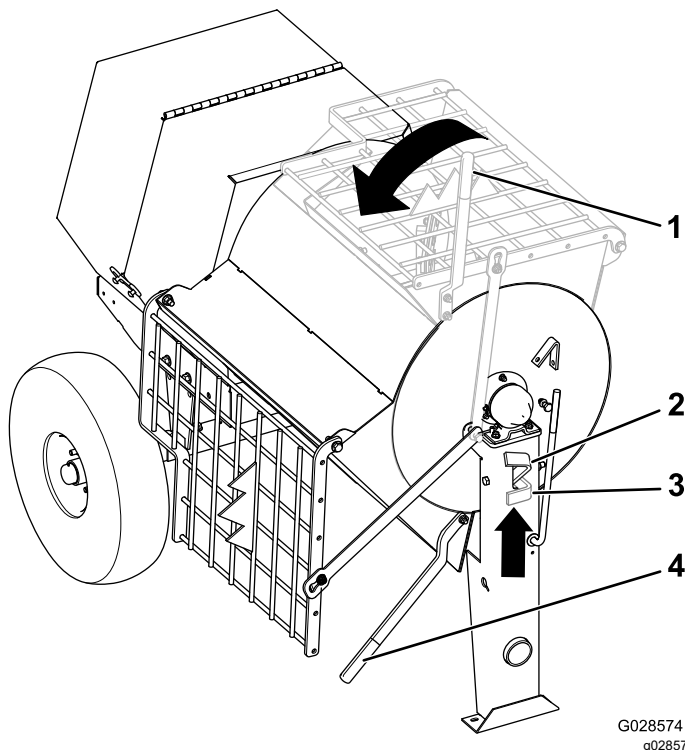

Figure 33
- Grasp the dump handle with your left hand (Figure 33).
- With both hands on the dump handle, rotate it counterclockwise to discharge the contents of the drum (Figure 33).
- Rotate the dump handle **clockwise** until the drum latch locks the drum in the upright position (Figure 33).
- Lift the handle of the drum latch (Figure 33).